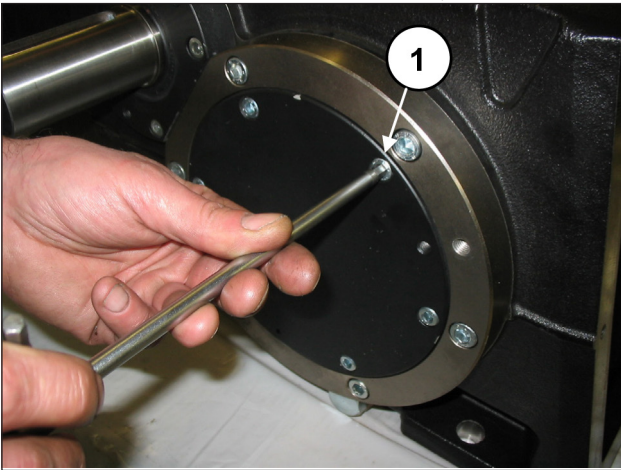

Fig. 11
Now remove the two bearing covers by unscrewing the screws (pos. ①, Fig. 11).